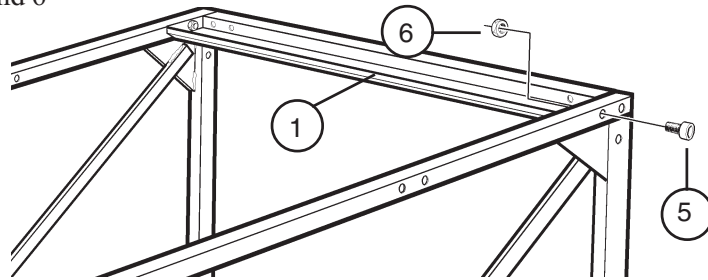

Figure 3: Inserting the Bottom Panel
Step 2: Insert the bottom panel (Item 1) with the smooth flat surface facing in and the angled edge up between the side frames. Secure using Items 5 and 6 (Figure 3). Ensure all screws are snug.